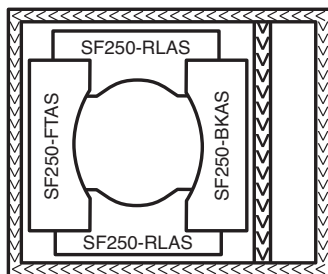

Fig. 2
4. Assemble side ash slides (2 pcs part #SF250-RLAS) to inside control side mounting plates (part #'s SF250-ASMP & SF250-CSMP) using 4-1/4" x 3/4" (F) Black hex bolts and 4-1/4" (J) Zinc nuts. Assemble back ash slide (part # SF250-BKAS) to the back baffle of stoker base. Using 2-1/4" x 3/4" (F) Black hex bolts and 2- 1/4" (J) Zinc nuts. Assemble front ash slide (part #SF250-FTAS) to front panel of stoker base. Using 2- 1/4" x 3/4" (F) Black hex bolt and 2- 1/4" (J) Zinc nuts. See Fig. 2.